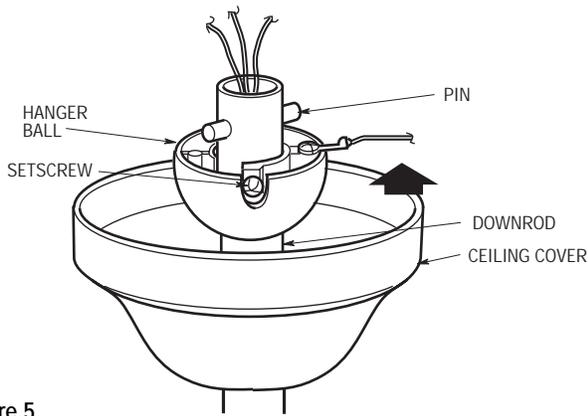

Figure 5
6. Reinstall the hanger ball (Figure 5) on the downrod as follows. Route the three 80" motor leads through the hanger ball. Position the pin through the two holes in the downrod and align the hanger ball so the pin is captured in the groove in the top of the hanger ball. Pull the hanger ball up tight against the pin and securely tighten the setscrew in the hanger ball. A loose setscrew could create fan wobble.